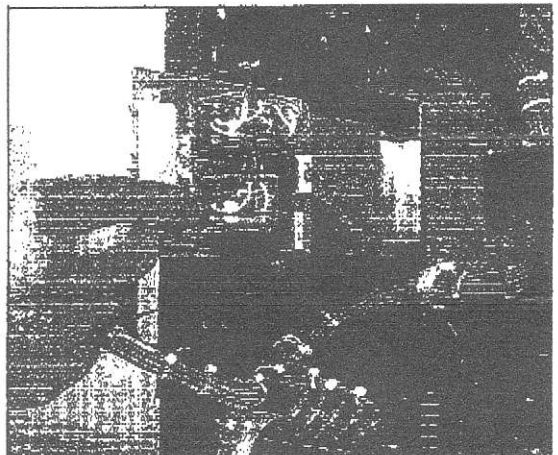

Fig. 68 Draw Out the Control Circuit Card
- 5) Draw out the Control Circuit Board (Fig. 68) and replace it with the new one.